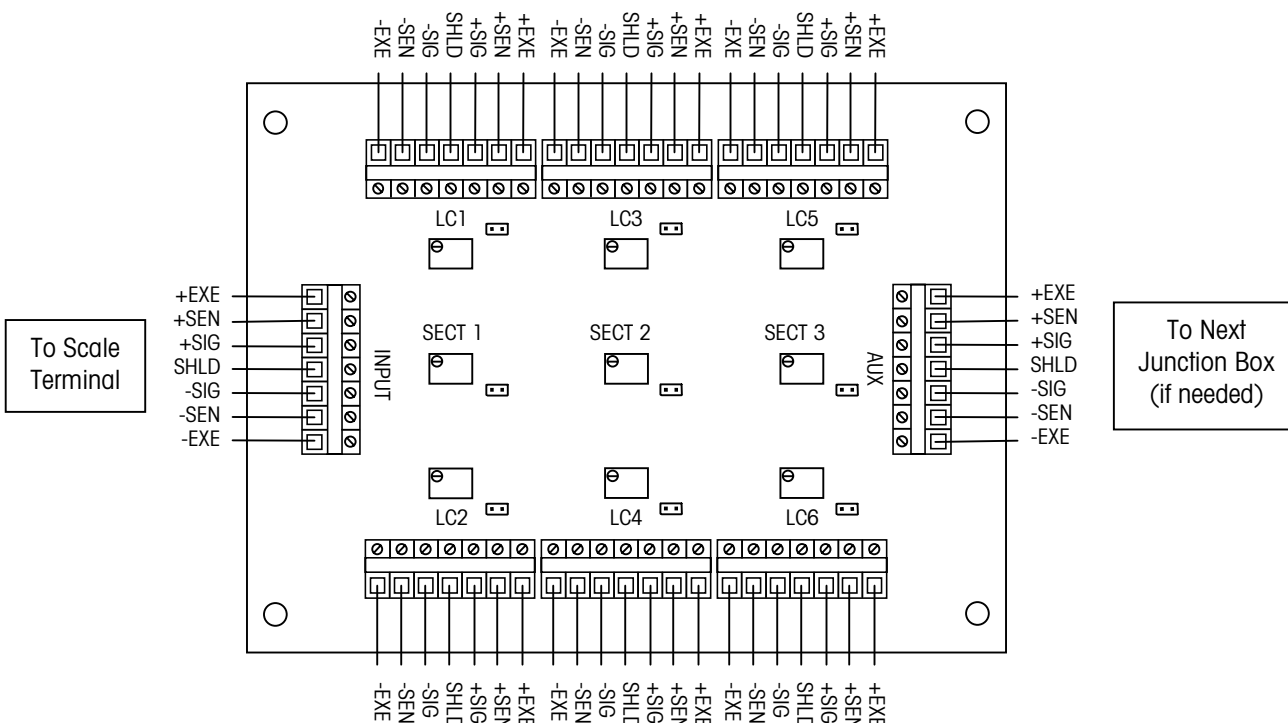

Figure 5-8: Junction Box Wiring
3. Wire the load cell cables to the terminals inside the junction box(es) as shown in Figure 5-8 and Table 5-1.